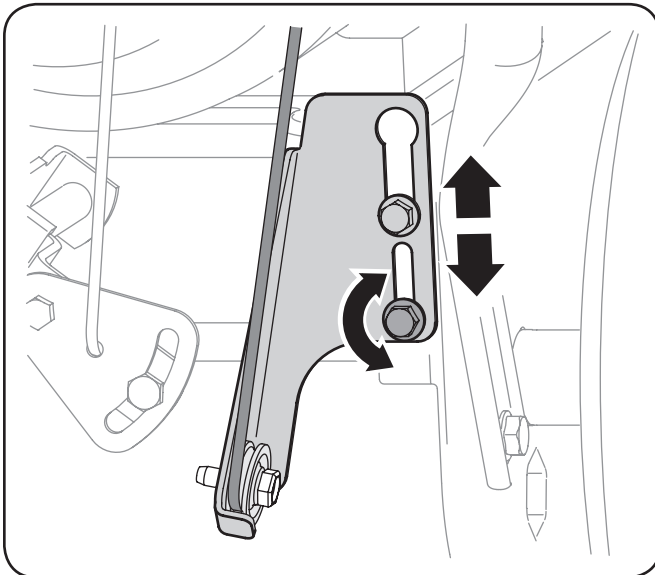

Figure 6-7
2. Loosen the lower hex screw on the drive cable bracket. See Figure 6-7.